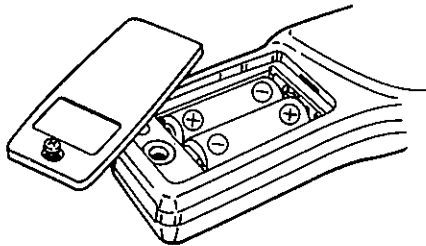

Fig. 10
- (1) Set the power switch to the OFF position and remove the test leads from the instrument.
- (2) Unscrew the battery compartment cover and remove the batteries from the battery compartment (Fig. 10)